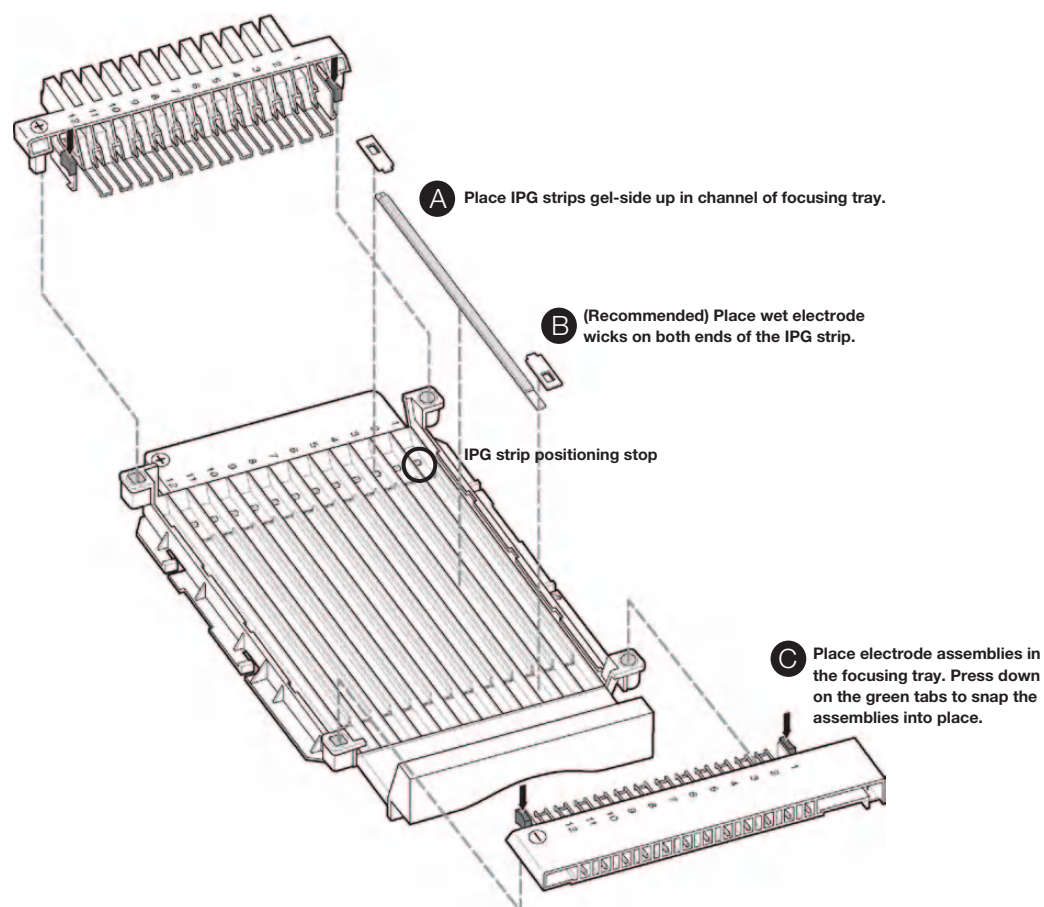

Fig. 2.3. Placement of an IPG strip gel-side up into the i12 focusing tray.
1. Using forceps, remove the IPG strips from the rehydration tray, remove excess mineral oil, and place the rehydrated IPG strips gel-side up in the channels of the focusing tray (Figure 2.3, A). Position the positive (+) ends of the IPG strips against the positioning stops in each channel.
2. (Recommended) Wet the gel-side up wicks (notched) with distilled or deionized water and blot off excess water. Use two wicks per IPG strip: place a wick at each end of each IPG strip (Figure 2.3, B).
3. Position the electrode assemblies in the focusing tray and press down on the green tabs to snap the electrode assemblies into place (Figure 2.3, C). Place the focusing tray with the rehydrated IPG strips on the Peltier platform and connect the electrodes to the instrument (see Section 2.1, Setup).
1. Using forceps, place the rehydrated IPG strips gel-side up in the channels of the focusing tray (Figure 2.3, A). Position the positive (+) end of the IPG strips against the positioning stops in each channel.
2. (Recommended) Wet the gel-side up electrode wicks (notched) with deionized water and blot off excess water. Use two wicks per IPG strip: place a wick at each end of each IPG strip (Figure 2.3, B).
3. Position the electrode assemblies in the focusing tray and press down on the green tabs to snap the electrode assemblies into place (Figure 2.3, C). Place the focusing tray on the Peltier platform and connect the electrodes to the instrument (see Section 2.1.2, Connecting the Electrodes).